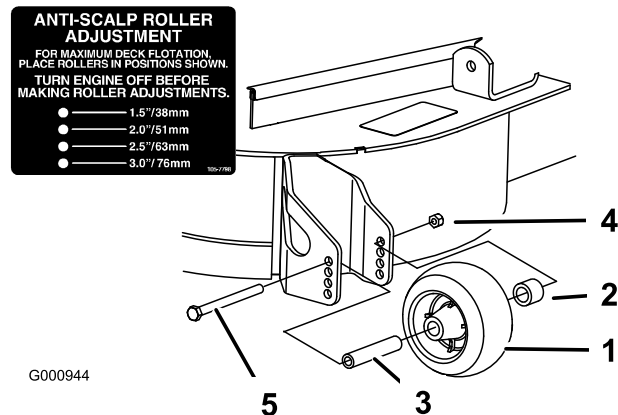

Figure 13
1. After adjusting the height-of-cut, adjust the rollers by removing the flange nut, bushing, spacer, and bolt (Figure 13).
3. Install the flange nut, bushing, spacer, and bolt. Torque to 54-61 N-m (40-45 ft-lb) (Figure 13).